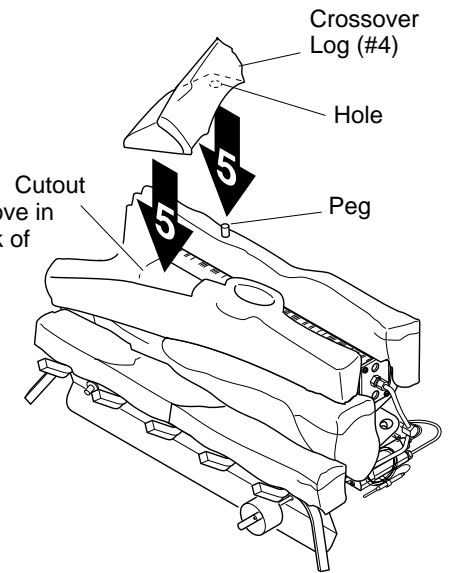

Figure 26 - Installing Crossover Log (#5)
5. Place the crossover log (#5) on the back log and the top middle log. Make sure the peg on the rear log is in the hole in the bottom of the crossover log. The crossover log should fit in the cutout of the top middle log (see Figure 26).